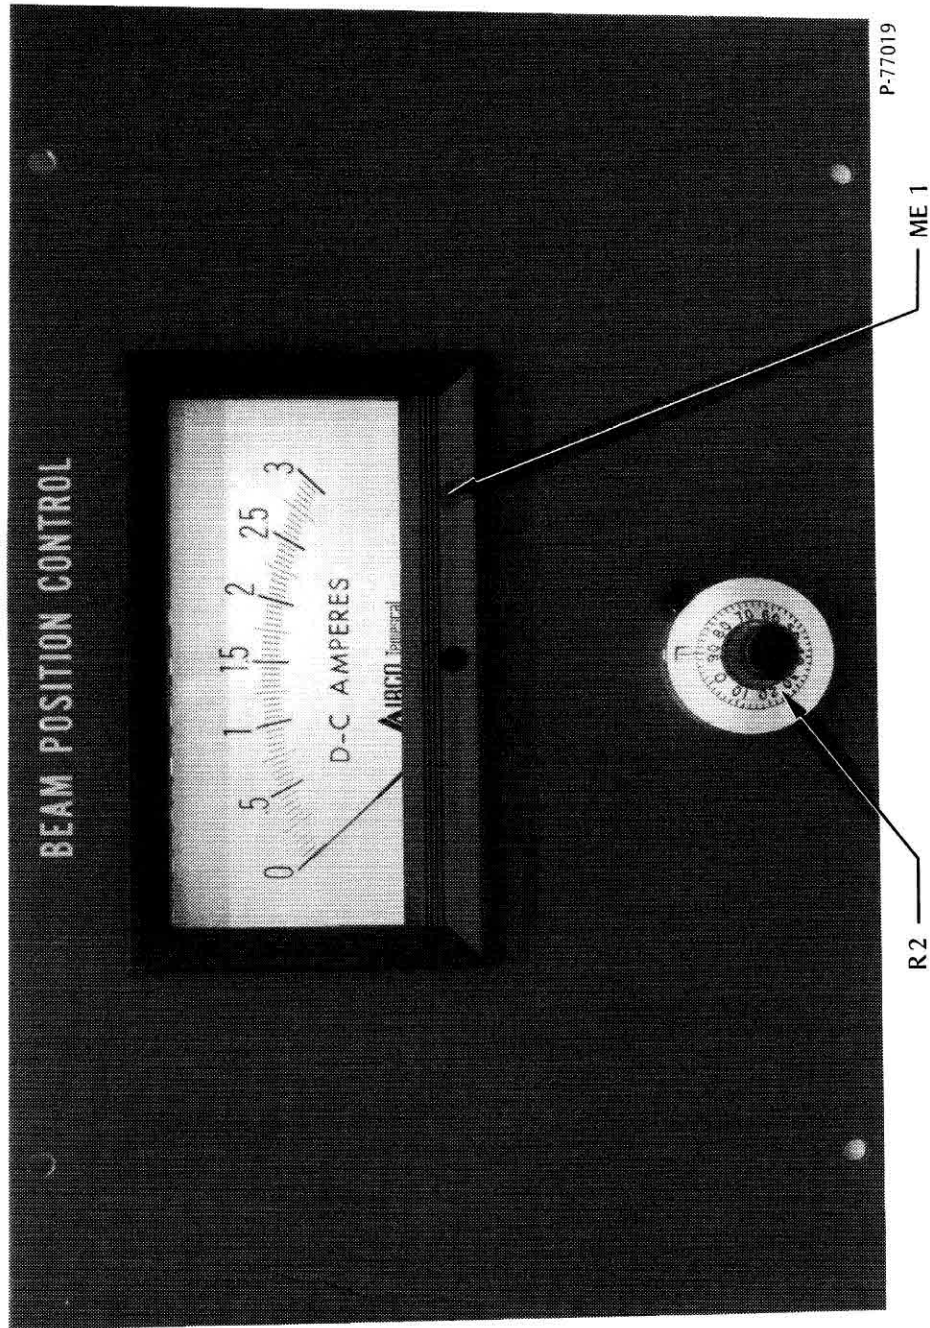

Figure 3-4. CV-14 A and B beam position control panel
- c) Beam Position Control (figure 3-4):